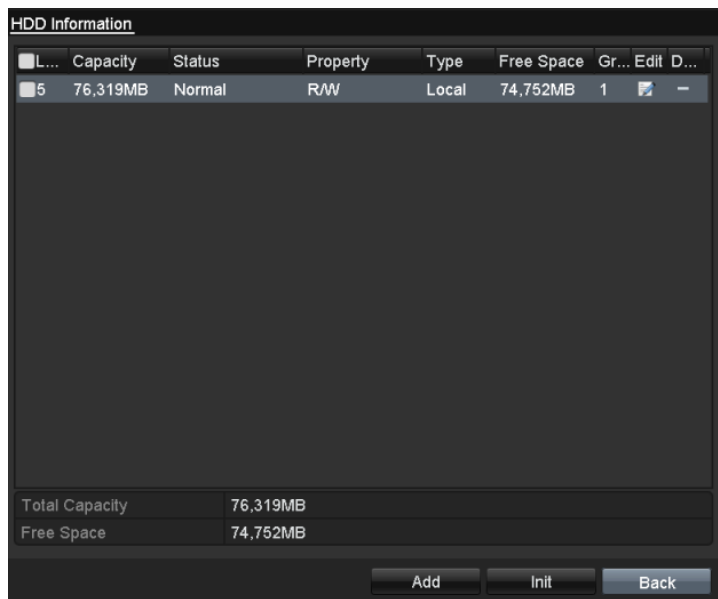

Figure 11. 21 View HDD Status (1)
2. Check the status of each HDD which is displayed on the list, as shown in Figure 11. 21.
2. Click the **HDD** tab to view the status of each HDD displayed on the list, as shown in Figure 11. 22.